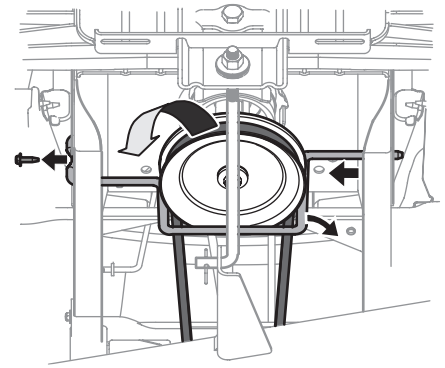

Figure 4-10
5. Remove the hex screw securing the engine pulley keeper rod to the frame. See Figure 4-10.